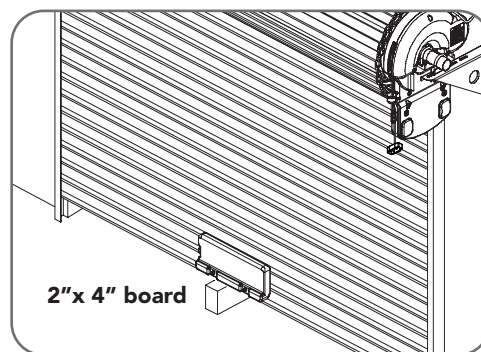

Fig.6.8.2
- Place an object approximately 1-1/2" (38mm) high (or a 2"x 4" board laid flat) on the floor under center of garage door opening (**Fig.6.8.2**).
- While holding down the FORCE MARGIN SET button, press the SET button (**Fig 6.8.2**) for two seconds.